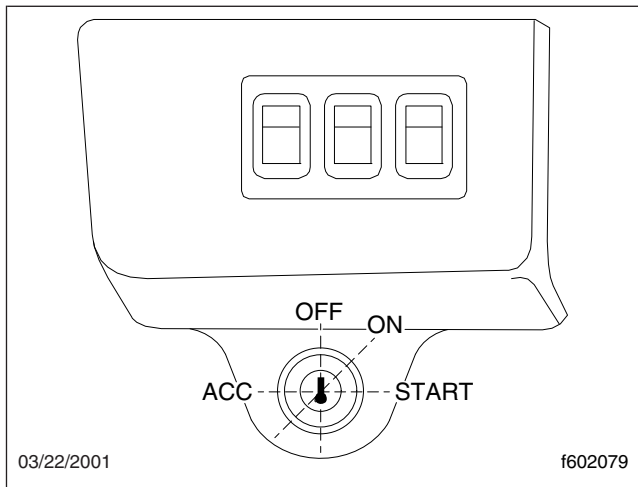

Fig. 7.7, Ignition Switch Positions
1. Turn the ignition switch to the on position. See Fig. 7.7. All the electronic gauges on the ICU (instrumentation control unit) complete a full sweep of their dials, the warning and indicator lights light up, and the buzzer sounds for 3 seconds.
1. Turn the ignition switch to the on position. See **Fig. 7.7**. All the electronic gauges on the ICU (instrumentation control unit) complete a full sweep of their dials, the warning and indicator lights light up, and the buzzer sounds for three seconds.
1. Turn the ignition switch to the on position. See Fig. 7.7. All the electronic gauges on the ICU (instrumentation control unit) complete a full sweep of their dials, the warning and indicator lights light up, and the buzzer sounds for three seconds.
Turn the ignition switch to the on position. See Fig. 7.7.
The intake air preheater is activated by turning the ignition switch to the on position. See Fig. 7.7. If the engine is at normal temperature, the INTAKE HEATER indicator goes out after two seconds.